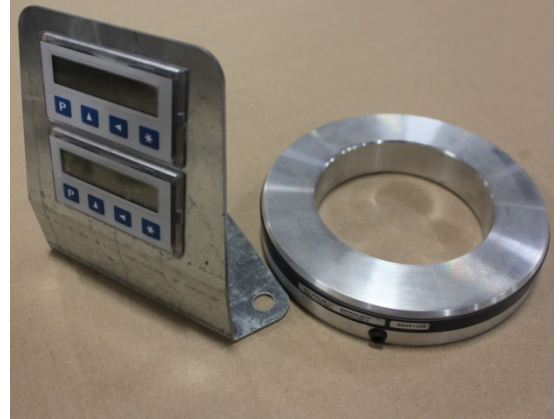

Fig. 1
1. Carefully put the magnetic band (H) around the magnetic band hub (J). Make sure that the serial number tag is facing out and visible. Insert the set screw (I) into the hub. (Fig. 1)
2. Insert the digital counters (F) into the digital readout bracket (C). Some filing may have to be done on the rectangular cutouts of the bracket to ensure a proper fit of the counters. Remember which readout is linear and which readout is radial. (Fig. 1)